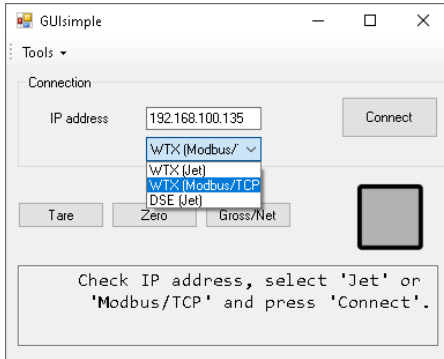

Fig. 6.5 Entering the start parameters
- ▶ Enter the IP address of the weighing terminal and the connection type (Fig. 6.5).